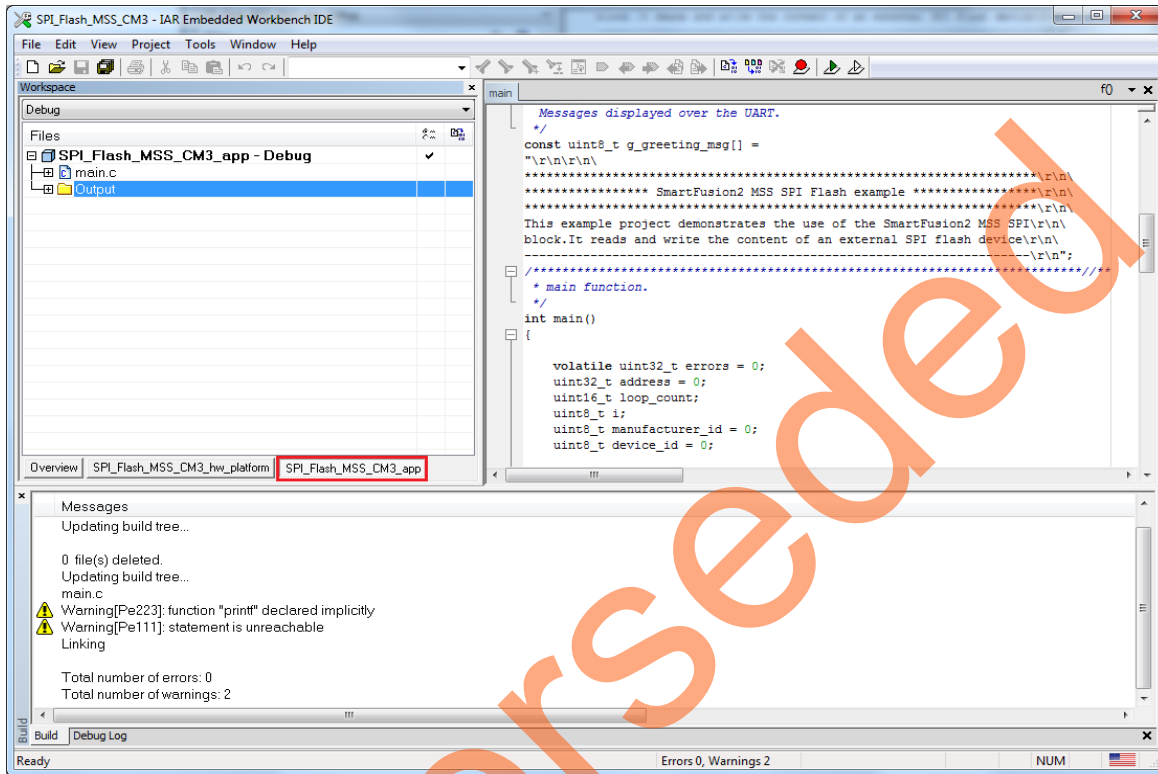

Figure 39 • Debug Window
1. Switch to **SPI_Flash_MSS_CM3_app - Debug** tab from Overview tab as shown in Figure 39.